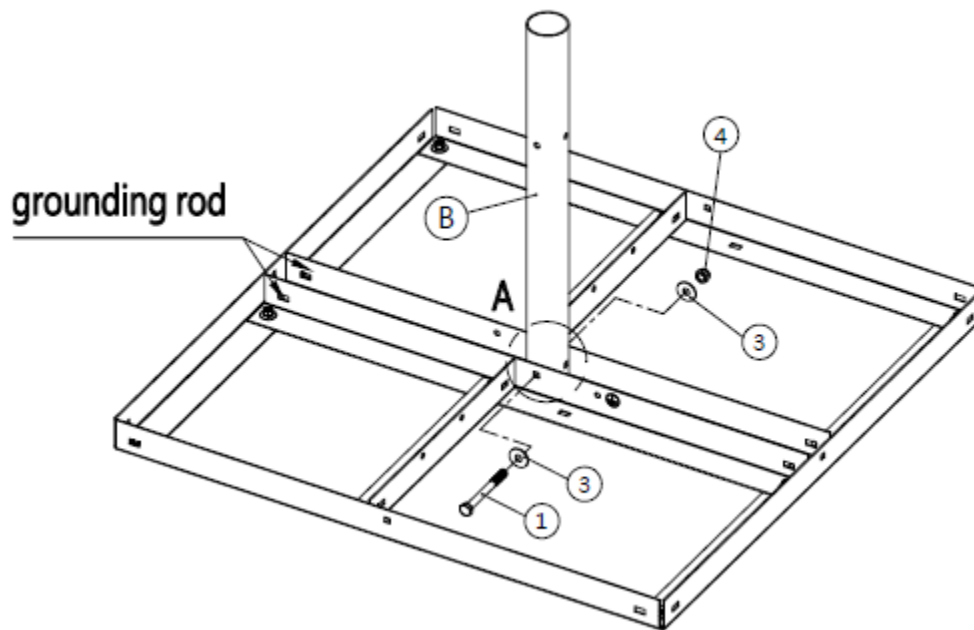

Figure 29: Installing the mast pole
3. Place the mast pole (B) upright in the center of the base, as shown in Figure 29, and connect it to the base using a hex-head cap screw (1). Secure the screw using two washers (3) and a nylon nut (4) as indicated in Figure 29.